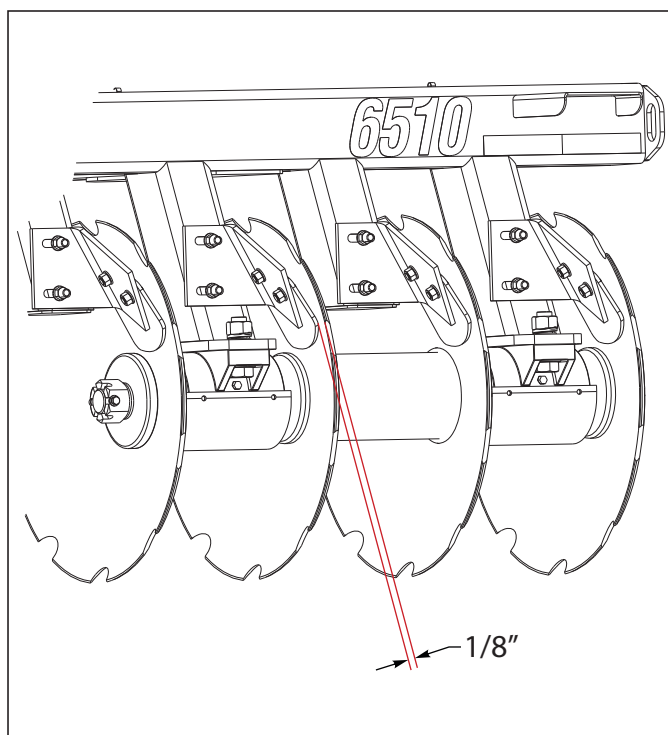

Figure 4-7: Scraper Adjustment
1. Scrapers should be set initially as close to the disc blade as possible without rubbing (approximately 1/8") See Figures 4-7. A slotted hole on each scraper mount is provided for individual adjustment.